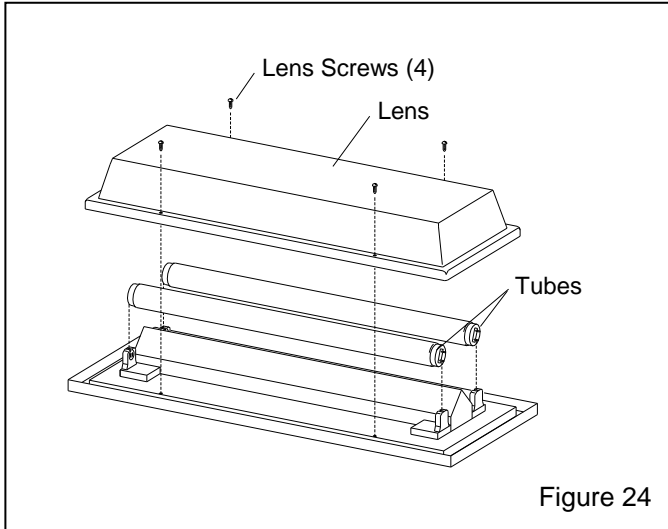

Figure 24
7.7.3.2 Flip the fixture over to access the lens screws, ref. Figure 24.